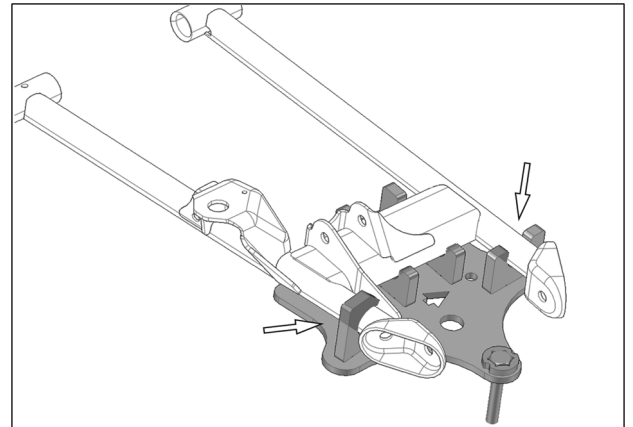

Fig. 7
6. C-shaped openings on bracket must fit suspension arm tubing. See Fig. 7